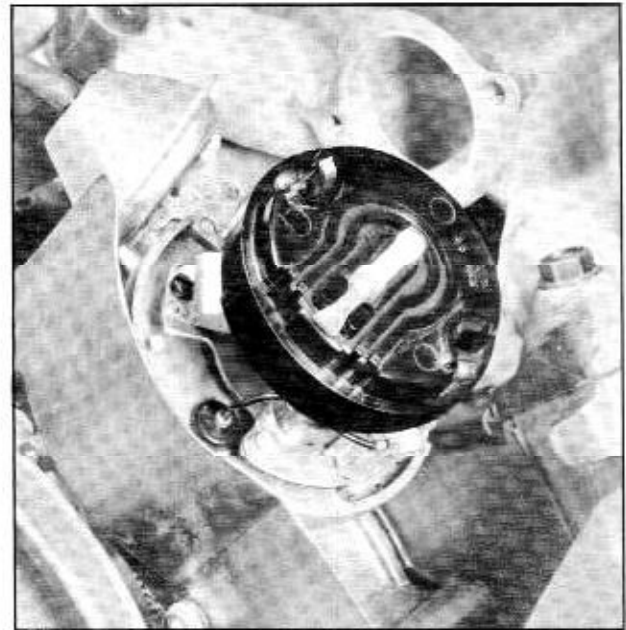

Fig. 13-69 Distributor Installation
4. Position the rotor so that it points toward the distributor cap number one cylinder tower. This will be positioned just slightly to the left of center and towards the front of the engine. (Fig. 13-69)